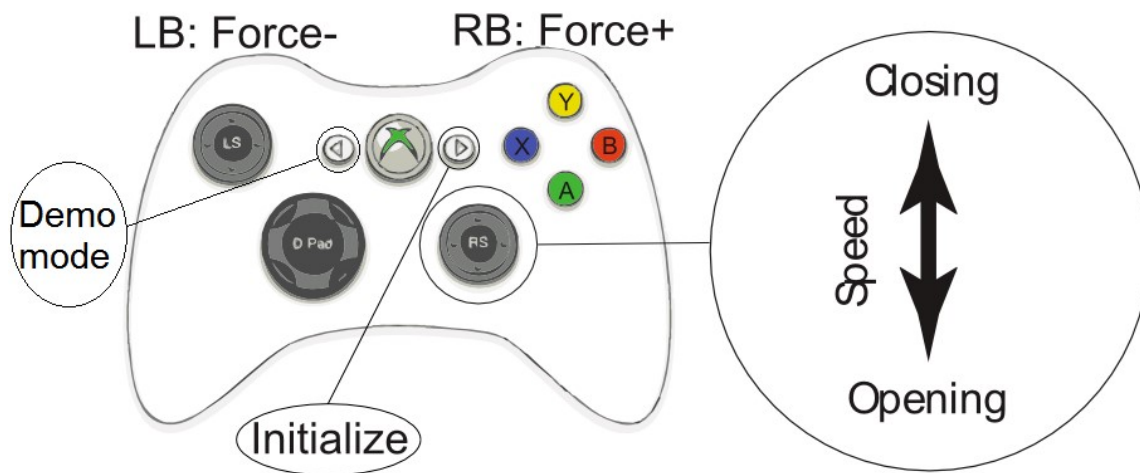

Figure 5.2.2.1 : Xbox Controls for the Adaptive Robot Gripper series.
- **Xbox Joystick control** allows control of the Gripper using a remote Xbox controller (see Figure 5.2.2.1 for a summary of the available controls).